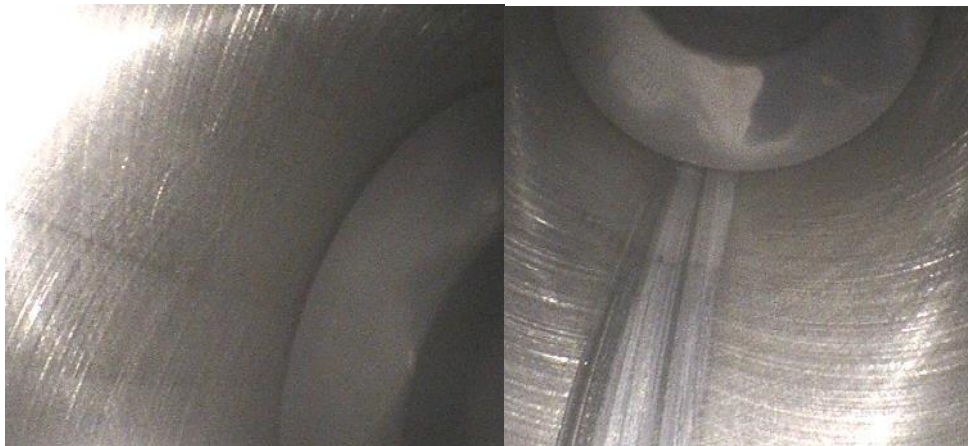

Figure 39 – Cylinder Bore Inspection
38. With the injectors removed, inspect each cylinder with a borescope. Rotate the engine so that the whole bore top to bottom can be viewed. Are there any signs of scoring (Figure 39)?